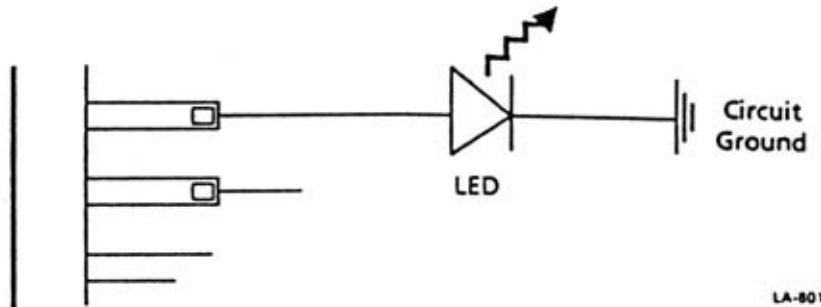

Figure 4-1. Testing Counter Card Output
2. Connect 4 or more LED's between the binary output ; power supply ground as shown in Figure 4-1. Select (or digit) which will give a reading which is eas interpreted. (Four of the "middle" bits for natural bina tenths or units place for BCD). The LED's should be rat for 3-5 Vdc, 50 mA maximum. The LEDs light when the is high. (Note that output voltage will drop under load - s TTL data books.)